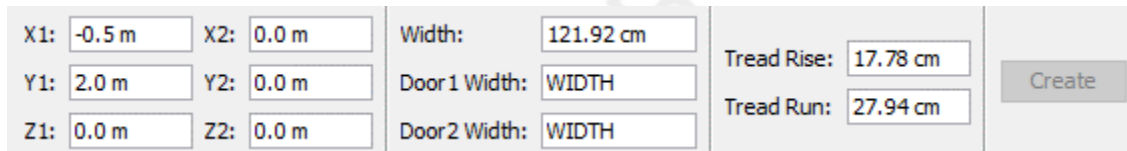

Figure 59. Property panel for the two-point stair tool
2. Select the two-point stair tool, . The property panel will display the stair creation properties as shown in Figure 59.